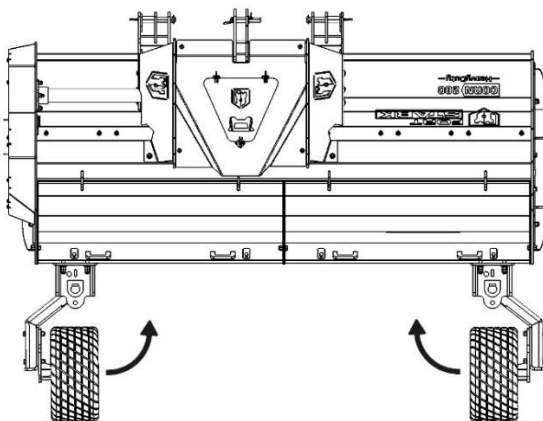

Figure 18. Rotating the support wheel bracket towards the centre of the machine
- rotate the support wheel brackets (Fig. 17, item 2) towards the centre of the machine (Fig. 18),